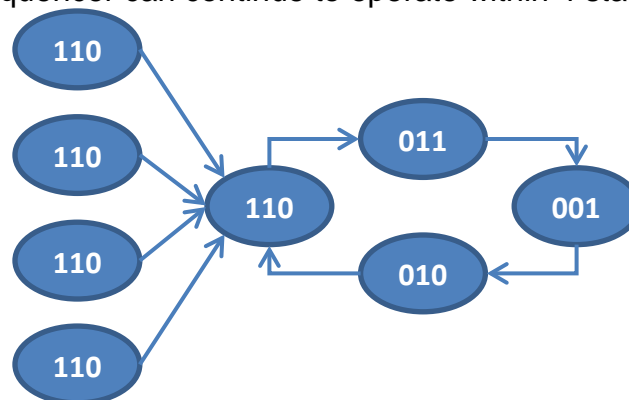

Figure 2. 3-bit state sequencer.
Figure 2 shows the state model of a specific 3-bit sequence generator that operates only in the 001, 010, 110, 011 states. Any of the remaining states (000, 100, 101, 111) should return to 110 so the sequencer can continue to operate within 4 states only.
In part 2 you will implement the 3-bit state sequencer shown in Figure 2 based on your design in the pre-lab.
5. In Part 2 of the lab, you will design and implement the JK 3-bit state sequencer shown in Figure 2. Based on the 2-bit example (from Background and earlier pre-lab questions), complete the following steps to design the 3-bit sequencer.
b. Complete the present state/next state table below for the Figure 2 sequencer where $Q_2^n Q_1^n Q_0^n$ are the current states and $Q_2^{n+1} Q_1^{n+1} Q_0^{n+1}$ are the next states.